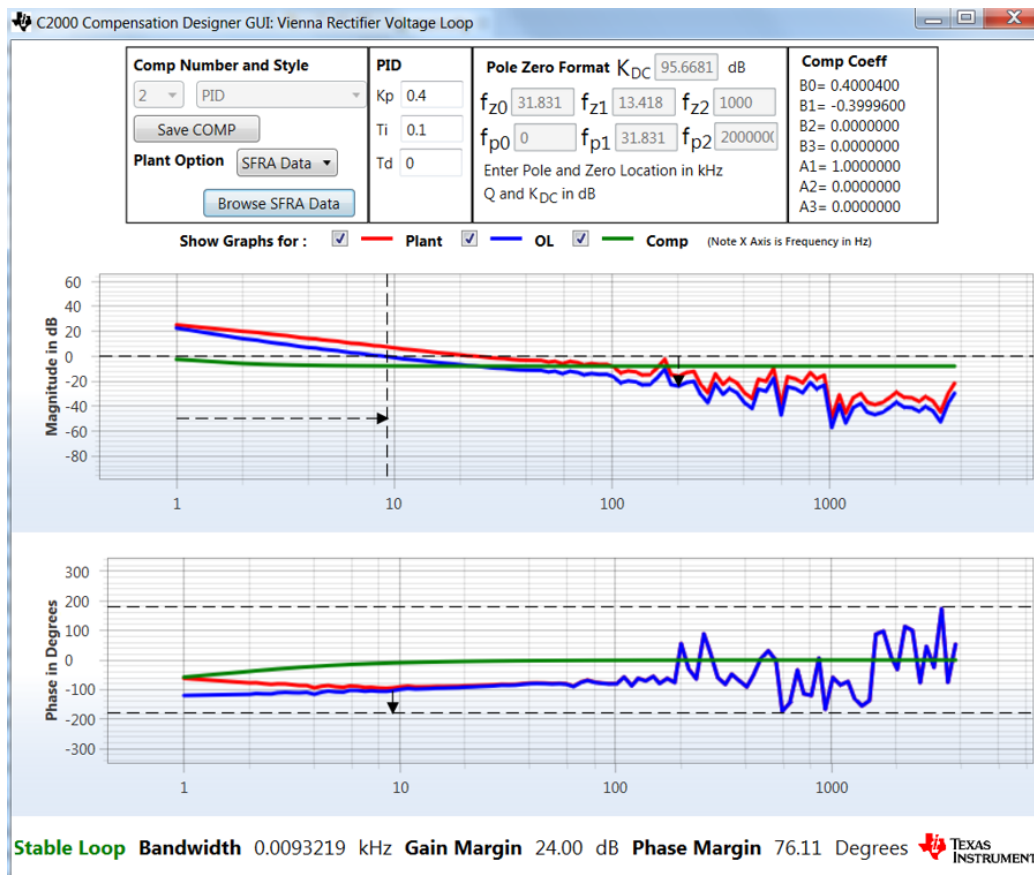

Figure 42. Voltage Loop Compensation Designed With Measured Plant Information
- Click on the Compensation Designer again from the CFG page, and choose *SFRA Data* for plant option on the GUI. This option will use the measured plant information to design the compensator, as shown in Figure 42. This option can be used to fine tune the compensation. By default the Compensation Designer will point to the latest SFRA run. If a previous SFRA run plant information needs to be used the user can select the *SFRADData.csv* file by browsing to it by clicking on *Browse SFRA Data*.